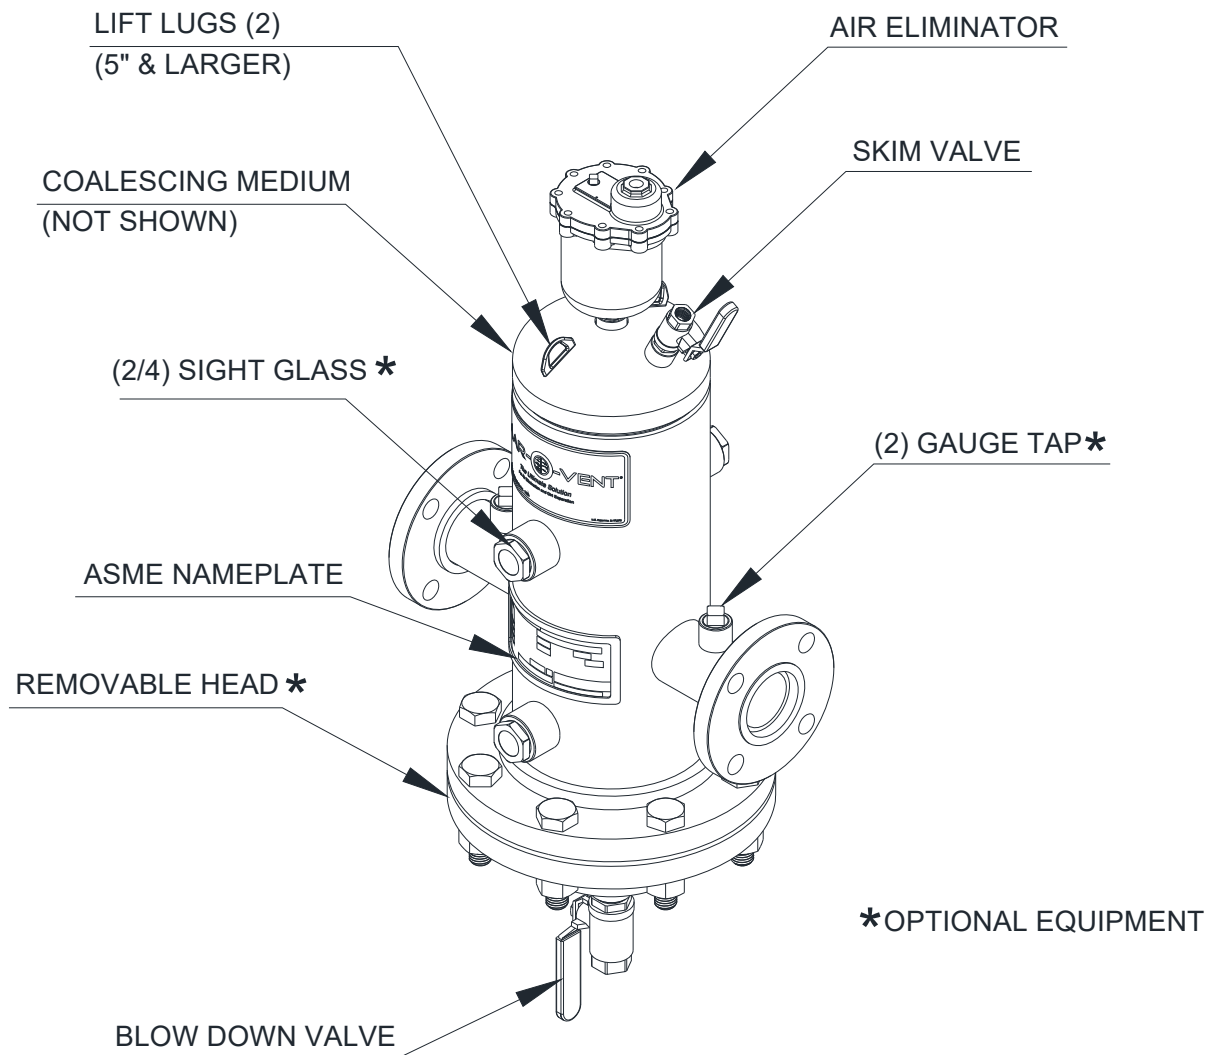

Figure 3-1 Components
1. To protect the *Aar-O-Vent* during shipping, some of the components are shipped unattached in protective packaging. These components are to be installed on site. See Figure 3-1 for component locations.